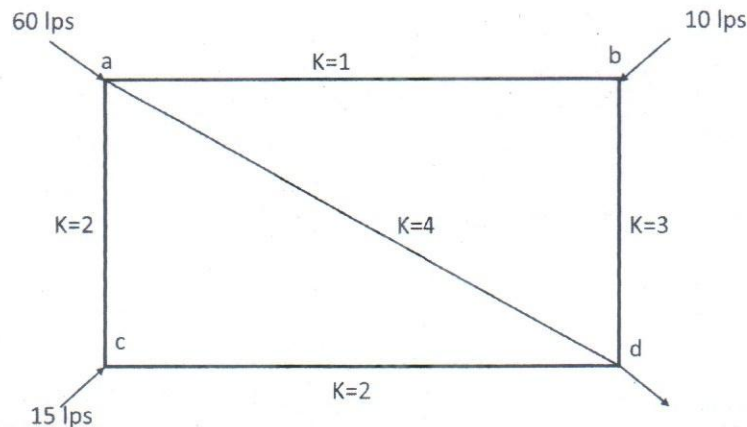

Fig. 3: Proposed pipe network.
2. (a) As a consultant, you are asked to design a spillway for a renowned company. How will you predict the performance of the hydro-structure? (03)
- (b) What are the most important dimensionless or non-dimensionless number to study dynamic similarity for a hydraulic structure? Define all of them and express in mathematical terms. No derivation is required. (07)
- (c) A pump (Efficiency=80%) is installed to deliver water from a reservoir of surface elevation zero to another elevation 60 m. The 30 cm diameter suction pipe ($f=0.02$) is 12 m long and the 25 cm diameter discharge pipe ($f=0.032$) is 1350 m long. Consider only major losses and all pressure atmospheric. The water rate within the pipe is $0.05 \text{ m}^3/\text{s}$. Answer the followings :- (15)
3. (a) Define laminar sublayer. (03)
- (b) Write down the basic assumptions of Hardy cross method. (04)
- (c) Determine the distribution of flow in the pipe network shown in Fig. 3 below using the Hardy cross method. (18)